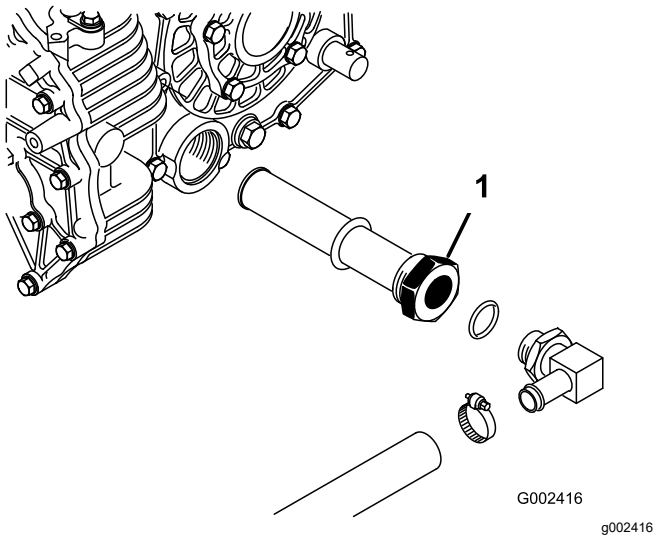

Figure 73
3. Note the orientation of the hydraulic hose and 90° fitting connected to the strainer on the side of the reservoir (Figure 73).